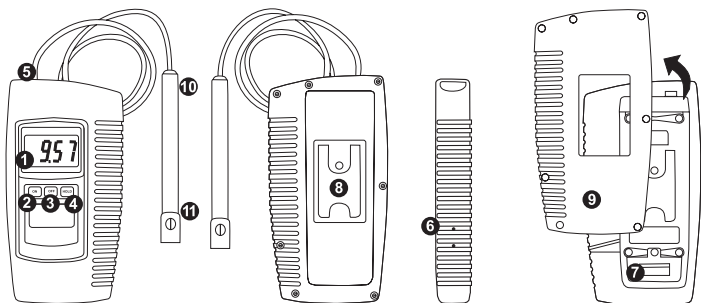

Figure 1
- 1) Connect the Salt probe to the probe input socket (Figure 1, **5**).
- 5) Press the „Hold Button“ (Figure 1, **4**) will hold the measured value and the LCD will indicate a „Hold“ symbol on the display during the measurement. Press the Hold Button again to exit the data hold function.